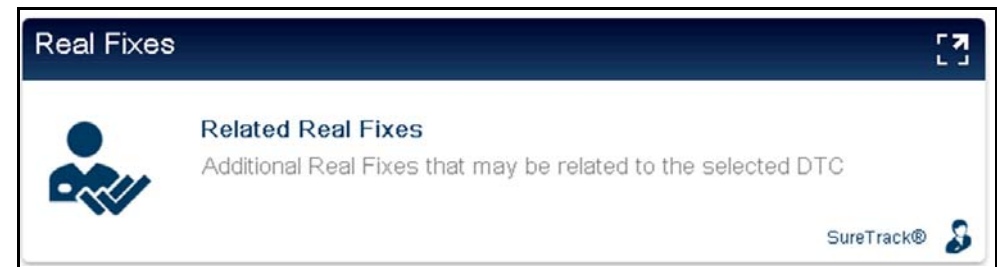

Figure 5-11
2. Scroll down and select the **Real Fixes** card (Figure 5-11).